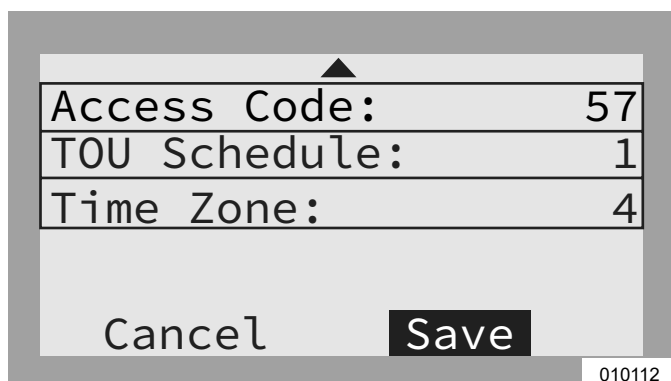

Figure 6-17. Configuring TOU Schedule (4 of 4)
8. See Figure 6-17. To commit changes to all entries, highlight Save and press the center button.